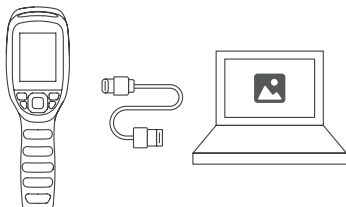

Figure 3.1.1
2. Connect TC004 to your computer with the supplied USB cable (see Figure 3.1.1).